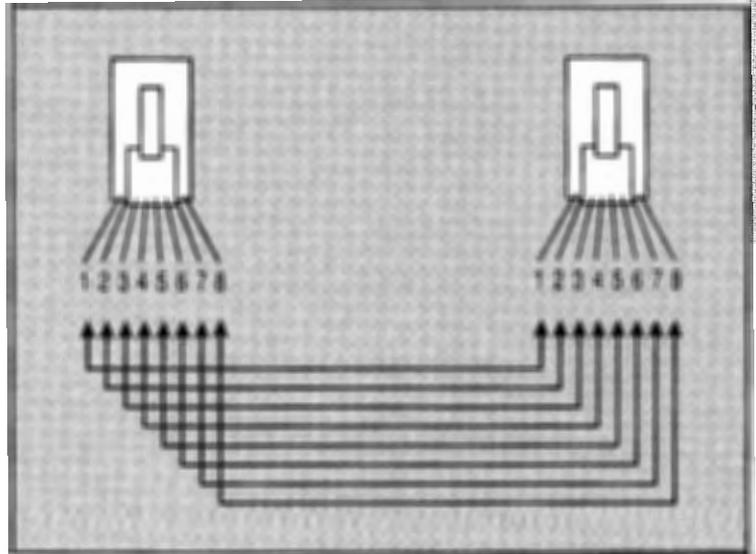

Figure E-2. “Straight-Through” Cabling Connections
3. To connect your printer to a twisted-pair hub/concentrator, cables must be wired “straight through,” meaning that a pin at one end connects to a pin with the same number at the other end. See Figure E-2.